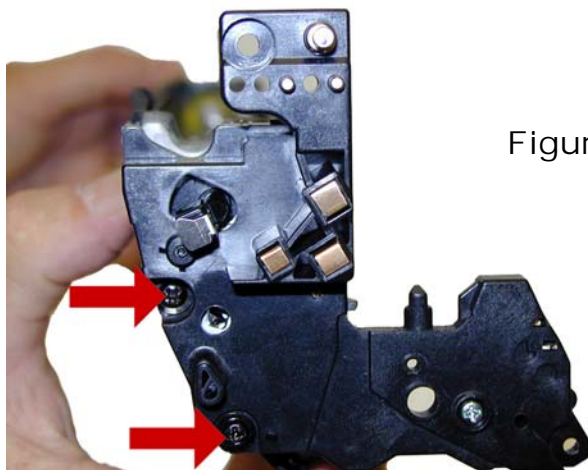

Figure 51
29) Install the left end cap and two black screws as shown. See **Figure 51**